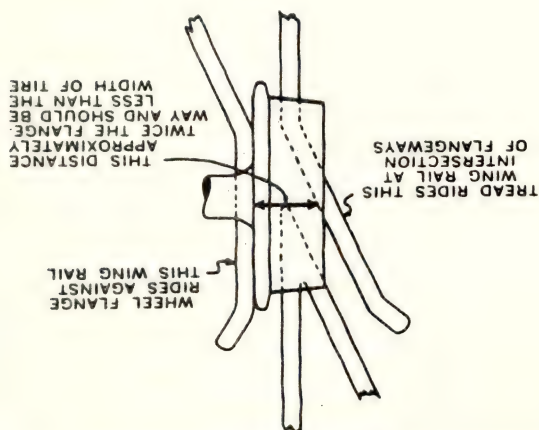

FIG. 2
- a Maximum Flangeway Width at the point of the Frog should be less than half the minimum Tire Width to ensure the wheel tread riding the Wing Rail across the intersection of the flangeways until it is supported by the Frog Point Rail. See Fig 2.